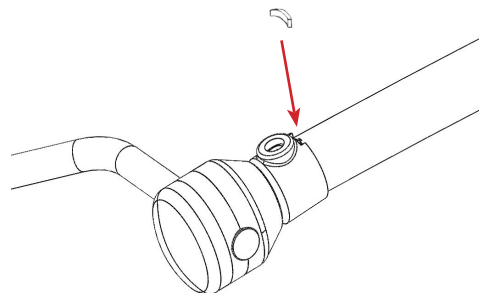

FIGURE 2.15 - Insert Retaining Tab
STEP 5: Insert the retaining tab to secure the light head to the arm. Refer to FIGURE 2.15